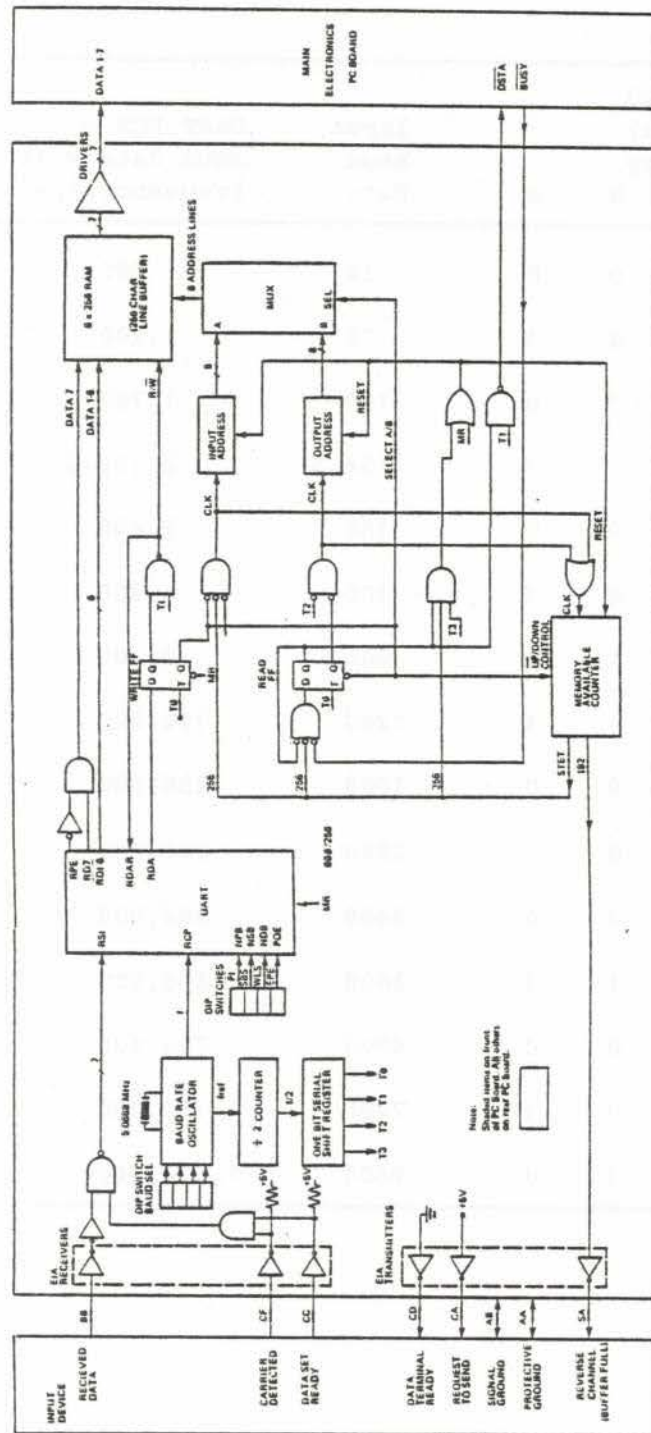
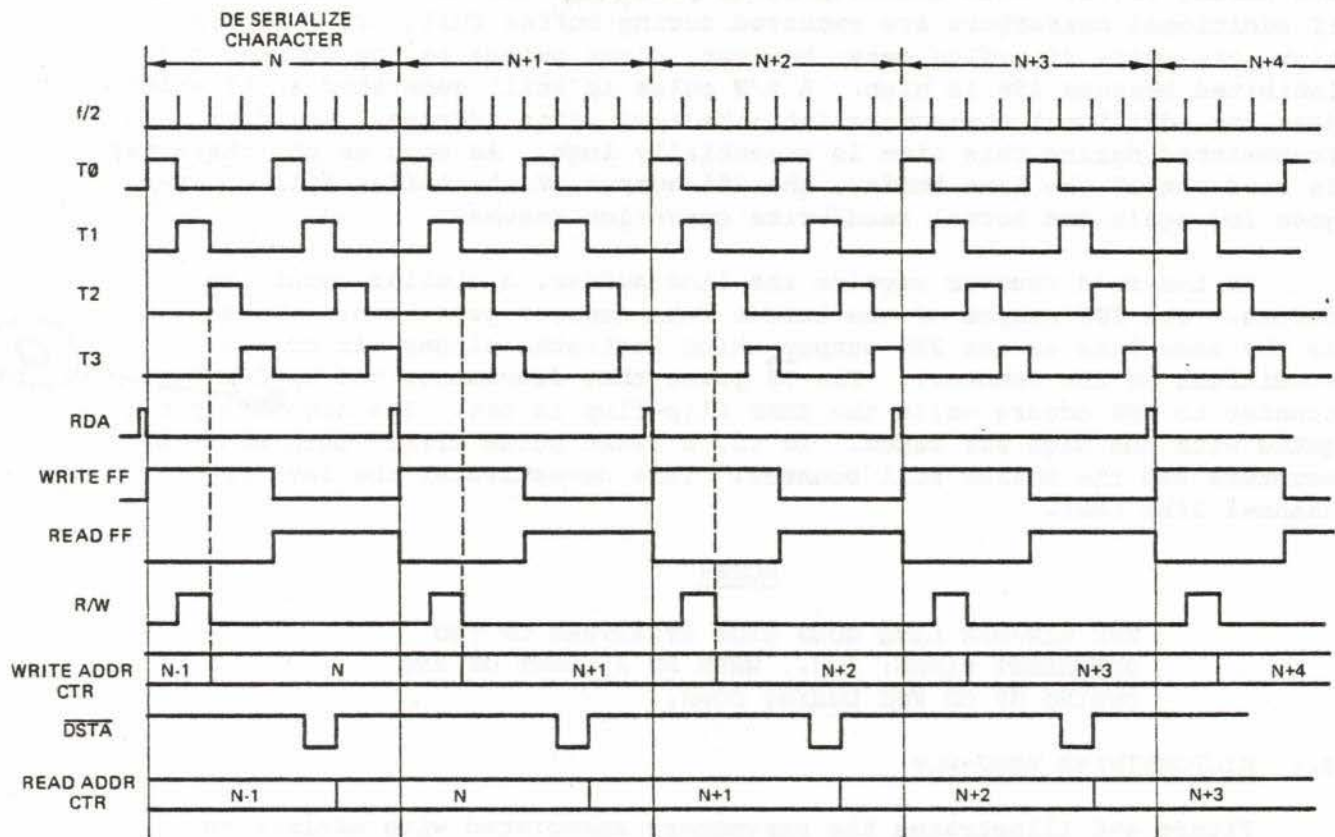

Figure 4-4. SERIAL INTERFACE BLOCK DIAGRAM
Figure 4-5. SERIAL INTERFACE TIMING DIAGRAM
4.3 SERIAL INTERFACE ELECTRONICS OPERATION (See Figure 4-4)
The sequence of operations may be followed using the functional block diagram, Figure 4-4 and the timing diagram, Figure 4-5. When the UART assembles the data bits for one character, it activates RDA. On the next T₀ pulse, the WRITE flip-flop sets. Its low Q output resets the read flip-flop. At T₁, the RDA flag is reset by RDAR and simultaneously a R/W pulse stores the 7-bit character in the line buffer at the address selected by the input (write) address counter. The low Q output of the write flip-flop controls the multiplexer SEL line to switch the write counter outputs to the line buffer address inputs. It also enables the buffer full counter to count up during T₂.
If read and write cycles occur as shown in Figure 4-5, the buffer full counter would always increment one count and then decrement one count, effectively staying at the same address. This occurs only if data characters are continuously transferred from the line buffer to the print buffer. Generally this occurs only at very slow input baud rates or when long pauses occur between lines of data.